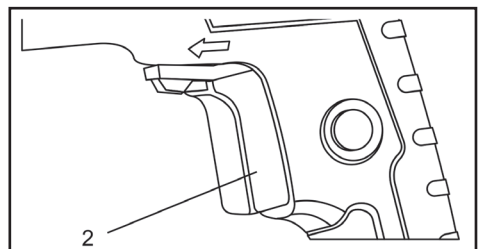

Fig.2
1. To start the drill, gently squeeze the trigger switch (2) (Fig. 2).